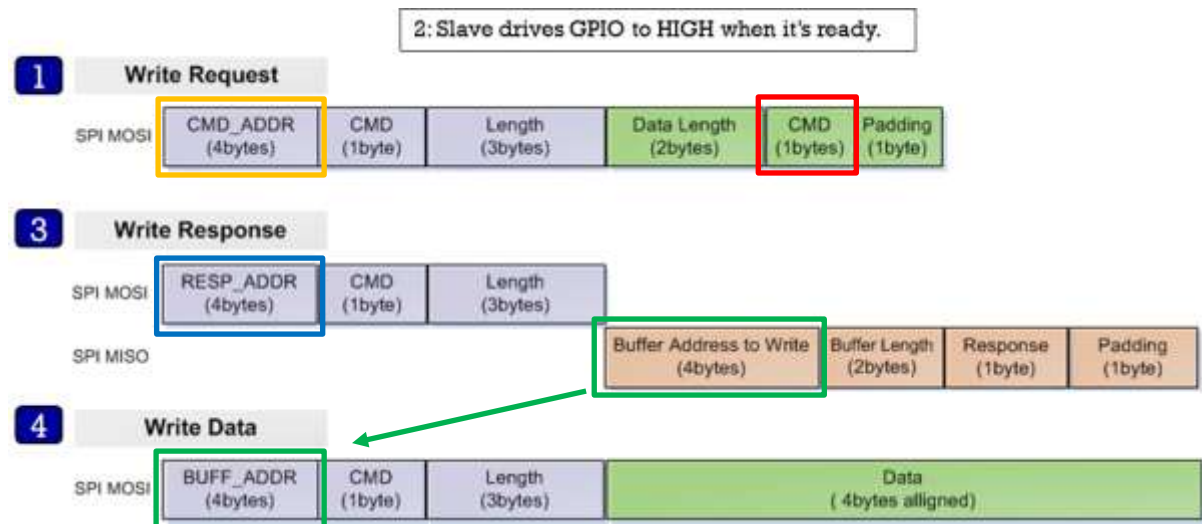

Figure 3: Structure for Write Operation
1. The Host sends a WRITE_REQ command (0x80, red rectangle in Figure 3) to the General Command address (0x50080254).(yellow rectangle in Figure 3).
3. The Host reads the Write Response message by Response Command address (0x50080258, blue rectangle in Figure 3) and parse it using struct `_st_host_response` (see Table 4).
4. The Host sends data to address (BUFF_ADDR) which is received from the Slave in the Write Response message.(Green rectangle in Figure 3).